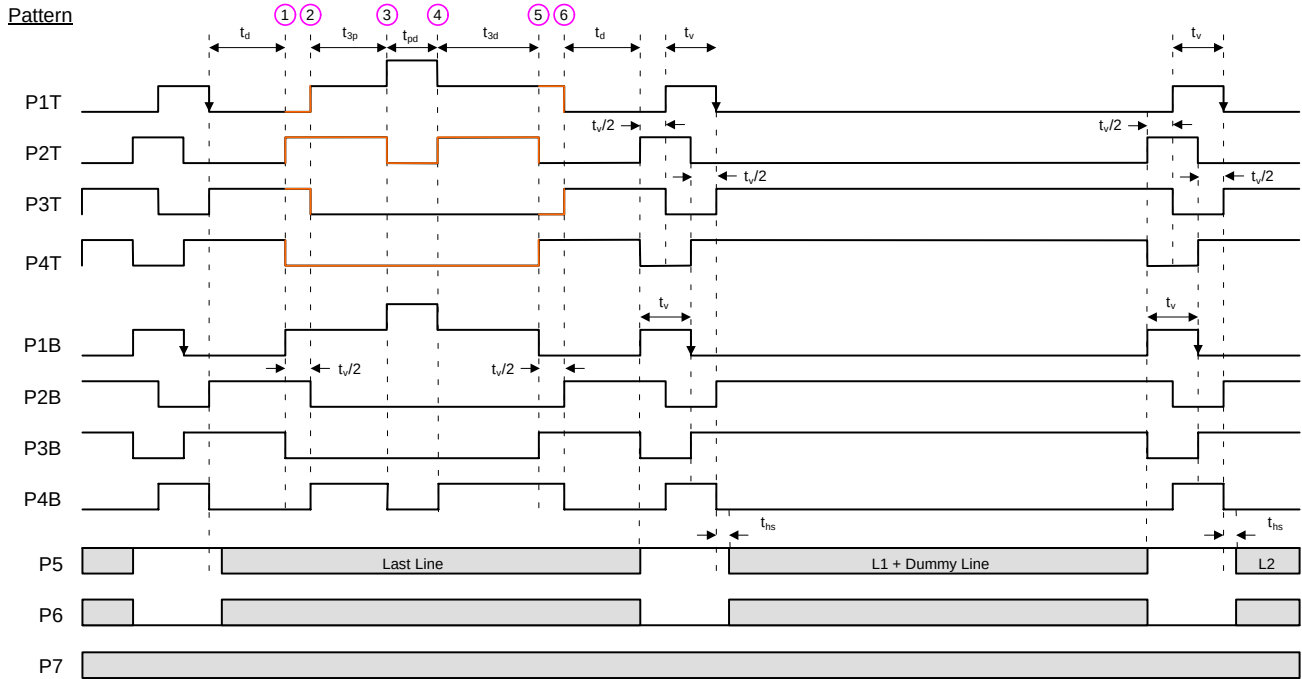

Figure 24. Photodiode Transfer Timing
1. Refer to timing diagrams as shown in Figure 24, Figure 25, Figure 26, Figure 27 and Figure 28.
The timing sequence for the clocked device pins may be represented as one of seven patterns (P1–P7) as shown in the table below. The patterns are defined in Figure 24 and